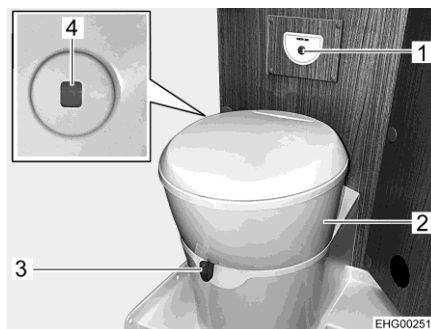

Fig. 171 Toilet
The toilet bowl can be rotated into the required position. In order to do this, grab the toilet's upper part (Fig. 171,2) with both hands and rotate it.
The operating unit with the flush button (Fig. 171,1) is installed near to the toilet bowl.
The colour of the level indicator (Fig. 171,4) changes from green to red whenever the sewage tank has to be emptied.
- Before flushing open the sliding trap of the toilet. To do this, push the slide lever (Fig. 171,3) in an anticlockwise direction.
- For flushing, press the blue flush button (Fig. 171,1).